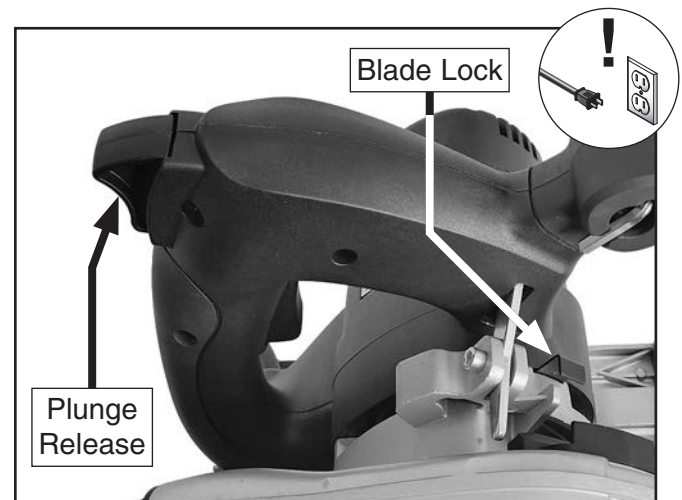

Figure 6. Blade lock and plunge release location.
2. Engage plunge release and lower blade down far enough to expose arbor bolt. Push blade lock until blade locks in place (see **Figure 6**).